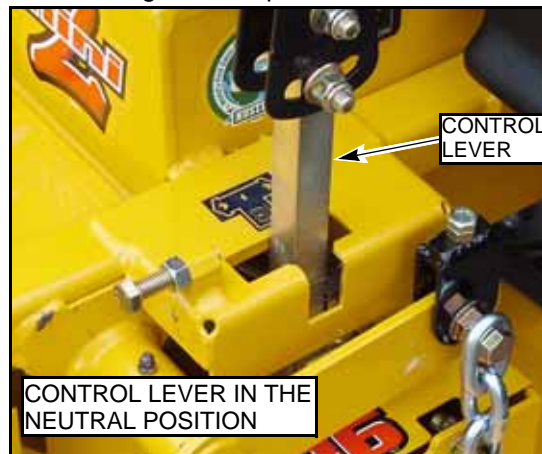

Fig. 9-30
The tractor steering has been factory adjusted to eliminate creeping when the control levers are in the neutral position (Fig. 9-30). However, should the tractor begin to creep, the control lever linkage can be adjusted as follows:
7. While holding the control lever position discussed in step 6, carefully adjust the transaxle control rod until the rear wheel starts turning forward. Now turn the transaxle control rod in the opposite direction until the moment when the wheel just stops turning forward. Turn the control rod another 1/2 turn in this direction. Hold the transaxle control rod in this position and actuate the parking brake with steering lever. The ZT 2800 transaxle should not whine. Fig. 9-30